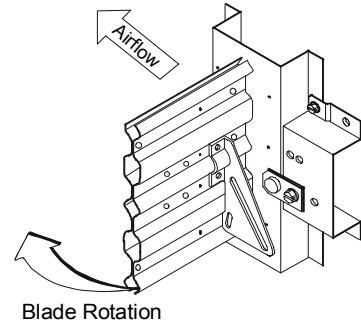

**Figure 16: Airfoil Blades**
- Airfoil Blades--Measure 1-1/8 inches from the end channel, as shown in Figure 16, and drill on the lines etched in the blade.